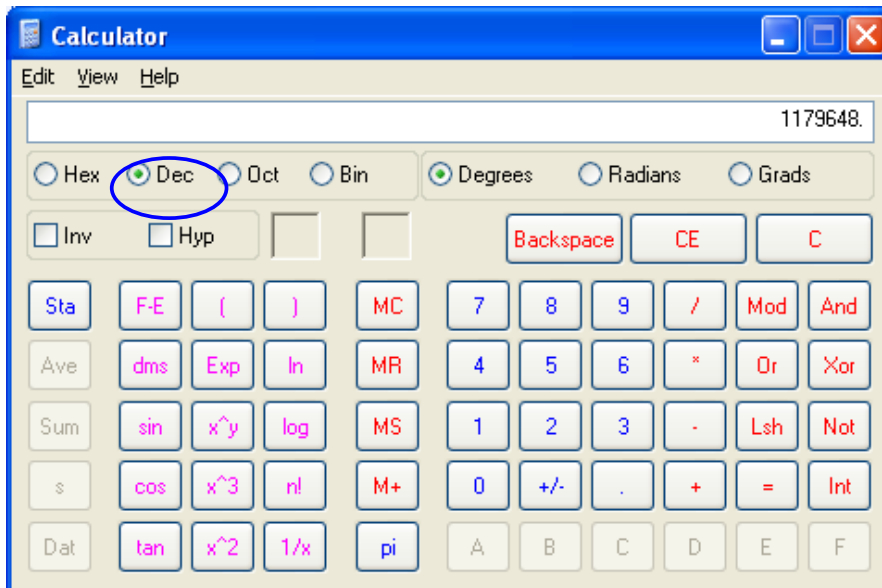

Figure 134
- Open your calculator (View Scientific) and type the number and then select Hex (See Figure 134)